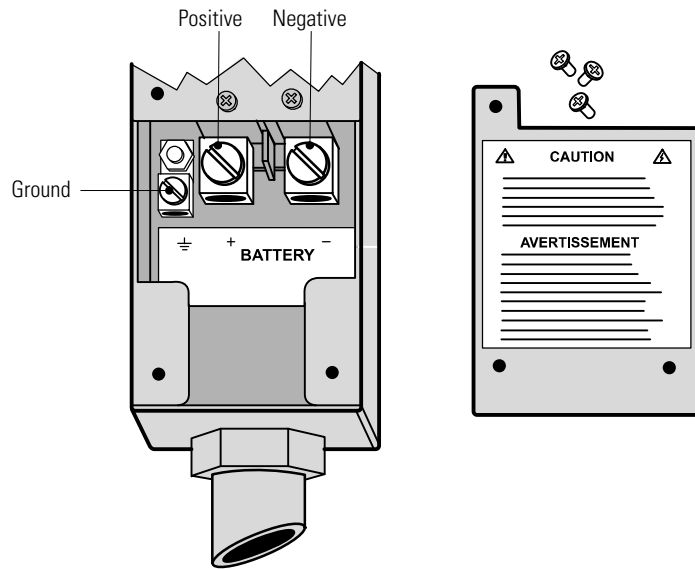

Figure 12. Landing Sites
6. Land the wires from the customer-supplied external battery at the three landing sites—ground, positive, and negative (see Figure 12).